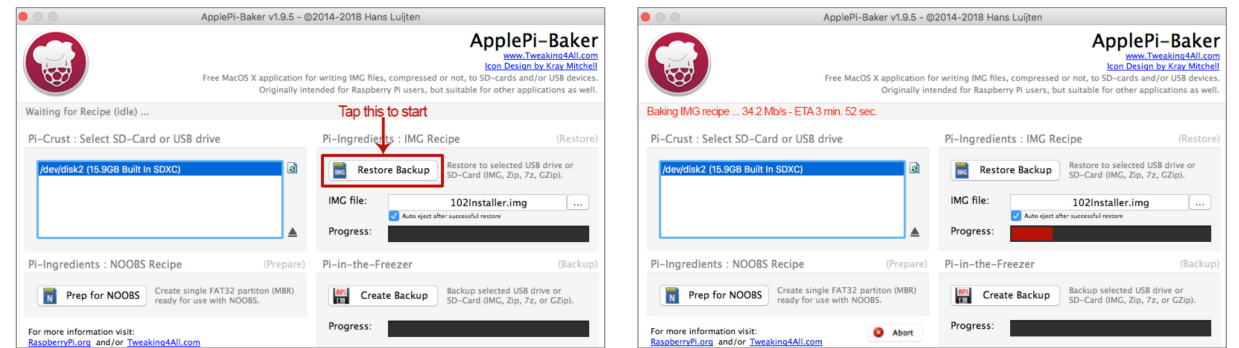

Figure 4-8. ApplePi-Baker - Restore to microSD card.
8) Press 'Restore Backup' to begin the SD card write process; an estimated time and progress bar will be shown in the app window (figure 4-8).